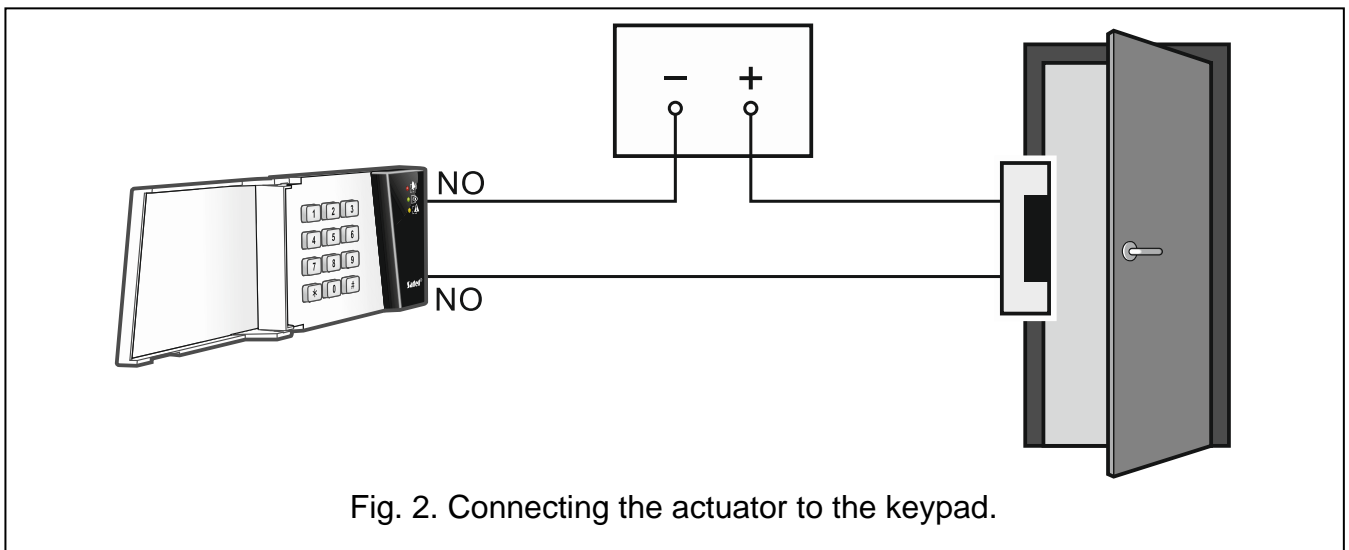

Fig. 2. Connecting the actuator to the keypad.
8. If the partition keypad is to control an electric strike, electromagnetic lock or another door actuator, connect this device to the NO terminals as shown in Fig. 2. It is not recommended that the door actuator be powered from the same source as the partition keypad.